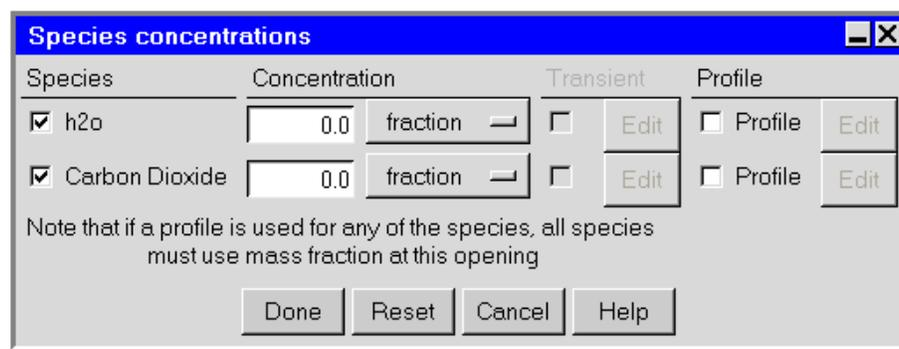
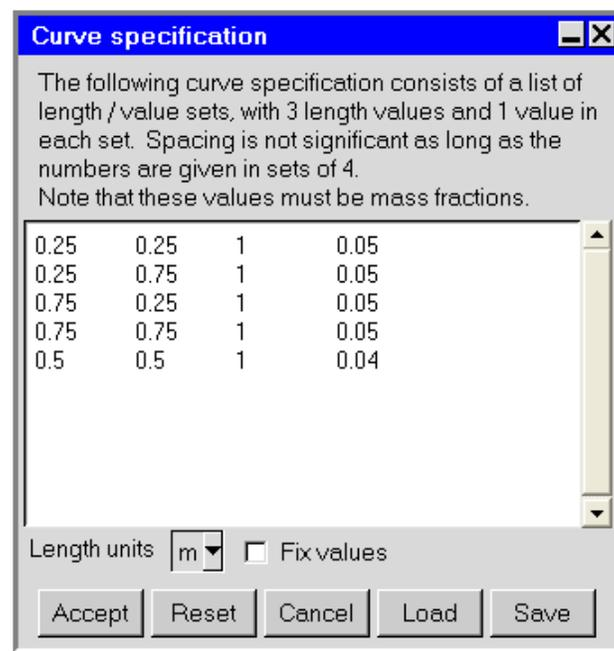

Figure 21.2.5: The Species concentrations Panel for a Free Opening
Figure 21.2.10: The Curve specification Panel
- i. Select the check box for each **Species** for which you want to set a concentration in the **Species concentrations** panel (Figure 21.2.5).
You can define a spatial boundary profile for the mass fraction of a species at a free opening using the Curve specification panel (Figure 21.2.10). To open the Curve specification panel, select Profile in the Species concentrations panel (Figure 21.2.5) and click Edit.
To define a profile, specify a list of (x, y, z) coordinates and the corresponding values in the Curve specification panel. For example, the first line in Figure 21.2.10 specifies a mass fraction of 0.05 at $(0.25, 0.25, 1)$. The data in Figure 21.2.10 specify a variation